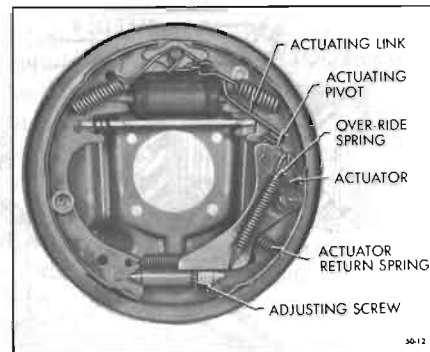

Figure 50-12—Left Rear Wheel Brake Assembly
A hydraulic wheel cylinder mounted on the backing plate between the upper ends of the brake shoes forces the shoes against the brake drum when the service brakes are applied. On rear wheels only, a lever mounted on each secondary shoe and connected to the primary shoe by a strut is used for applying the shoes when used as parking brakes. See Figure 50-12.
rails. The center cable attaches at either end to a rear cable assembly. Each rear cable connects to the free lower end of a brake shoe lever. These levers (one in each rear brake shoe assembly) pivot on the secondary shoes. Struts are mounted between the brake shoe levers and the primary shoes. See Figure 50-12.
6. Separate the brake shoes by removing adjusting screw and lock spring. Remove parking brake lever from secondary brake shoe (rear only). See Figure 50-12.
4. Place brake shoes on backing plate, at the same time engaging shoes with wheel cylinder links. The primary shoe (short lining) goes forward. On rear brakes, connect cable to parking brake lever and install strut and spring between lever and primary shoe as shown in Figure 50-12.